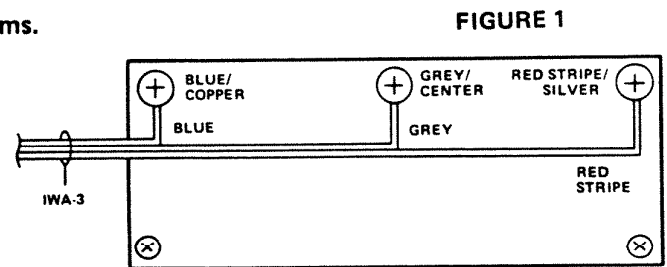

FIGURE 2
2. Using two mounting holes in the sides of the speaker body, secure the speaker to the frame with two (2) provided screws. See Figures 2 and 3.